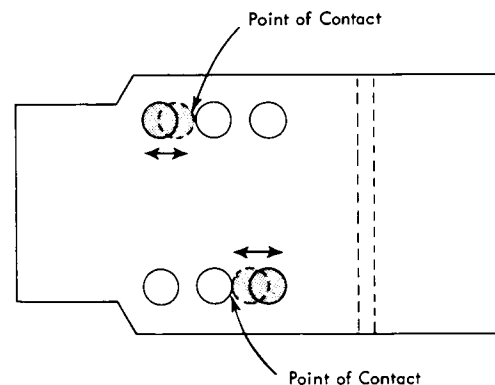

Figure 83. Base-to-Base Shorts
6. Base-to-base shorts between adjacent transistors. On SMS cards, adjacent transistors have sufficient lead length to permit contact and an intermittent base-to-base short. See Figure 83.